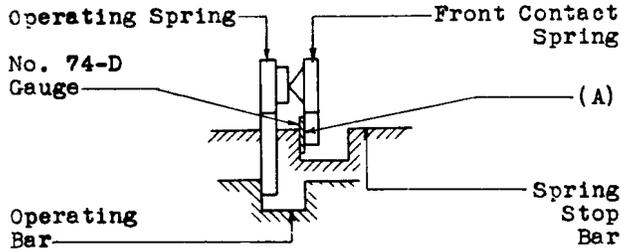

Fig. 13
2.10 Contact Follow - Figs. 13 (A) and 14 (A) -